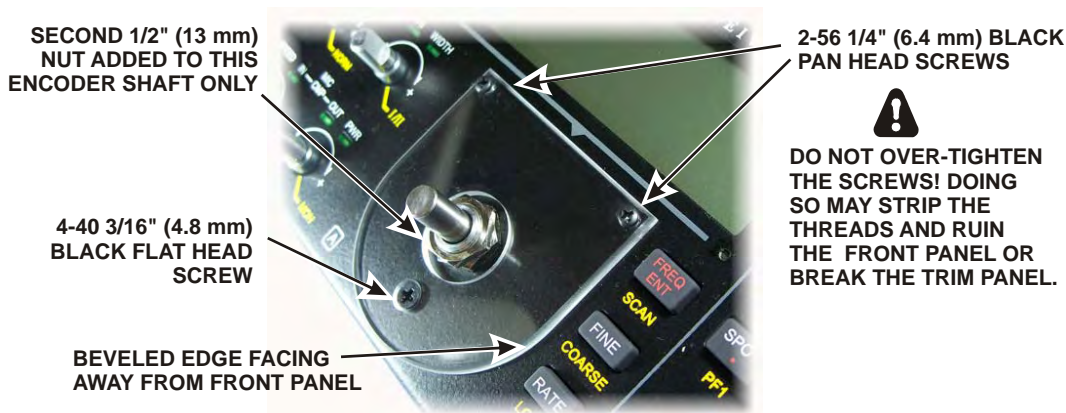

Figure 41. Mounting VFO A Trim Panel.
Place a second 1/2" (13mm) nut on the VFO A encoder shaft under the LCD and tighten it against the nut you installed earlier (see Figure 41).
- ☐ Brush or blow any dust or lint away from the front panel area around the encoder shaft under the LCD, then mount the trim panel as shown in Figure 41, oriented so the beveled edges are away from the front panel. Tighten the screws only until they come into firm contact with the trim panel. **Be careful not to over-tighten the screws or you may strip the threads or break the trim panel!**